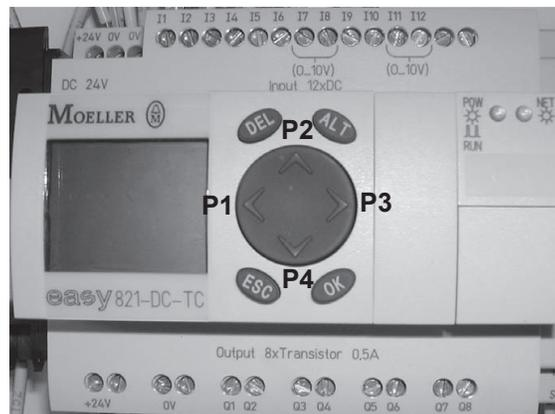

Figure 5 PLC Control Panel and Monitor
4. See Figure 5. In the base enclosure, locate the small PLC display. Using P1 through P4 buttons, set the **Ramp Time** to **1s**.